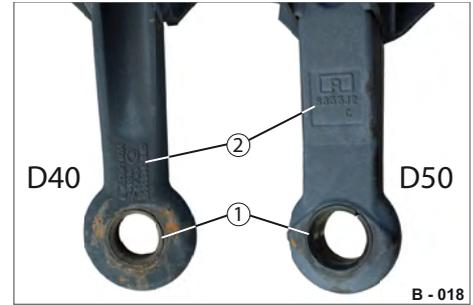

Fig. 15 Towing eyes with wear bushings
- ▶ Only replace a worn/deformed towing eye with an original replacement part - see identification (Fig. 15/2) on the towing eye.